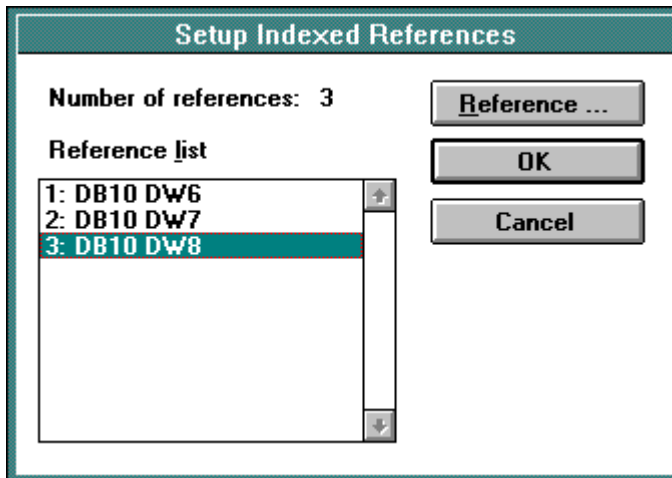

Figure 3-12
- When creating the *time indexed field*, the value of 1 should be referenced to DB10 DW6. Likewise, the value of 2 should be referenced to DB10 DW7, and the value of 3 should be referenced to DB10 DW8. A configured dialog box is shown in Figure 3-12